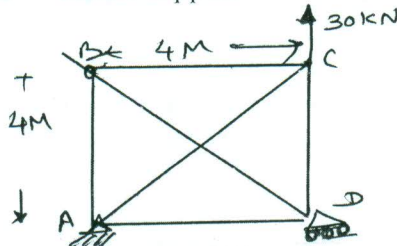

Fig.Q5(b)
b. Analyze the truss shown in Fig.Q5(b) by stiffness method.